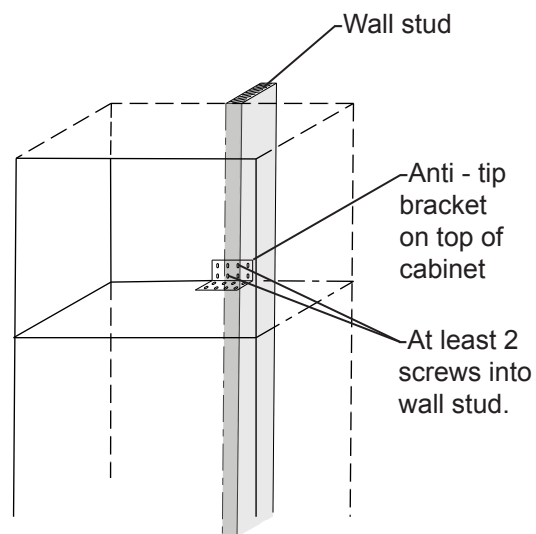

Figure 9
Locate a wall stud behind the unit that is suitable for securing the 5" anti-tip bracket to the wall. The position of the bracket should be to the right of the power module and not behind the power module. Do not disturb the power module gasket on the left side of the unit. Place the anti tip bracket on top of the cabinet flush with the back of the cabinet. Mark and drill at least three holes (1/8" (3.2mm) into the top of the cabinet and secure the bracket to the top of the cabinet with at least (3) of the #8 x 5/8" screws provided. Secure the bracket to the wall stud with at least (2) #8 x 1½" screws provided. See Figure 9.